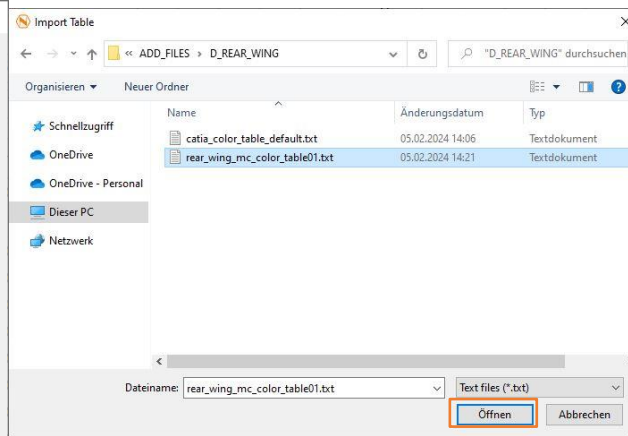

Figure 268
62. In the rear wing example folder, you will find the "rear_wing_mc_color_table01.txt" file. Select this file and click on open **Öffnen** (Figure 268).